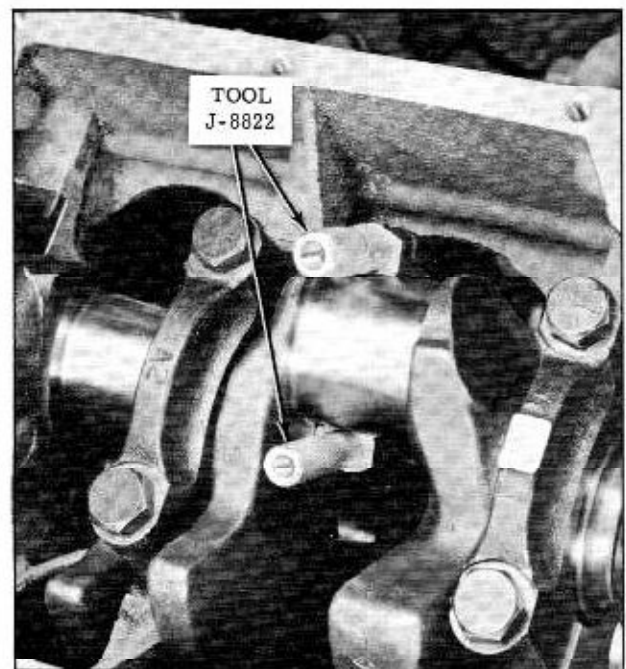

Fig. 8-23 Connecting Rod Bolt Guides
5. Install guide Tool BT-8822 over threads of rod bolts. This is to prevent damage to bearing journal and rod bolt threads. (Fig. 8-23)
1. Install connecting rod bolt guide Tool BT-8822 over rod bolt threads. (Fig. 8-23)